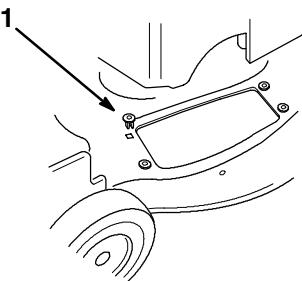

Figure 37
6. Install four grommets supplied with the grass catcher into the four square holes in the lawn mower (Fig. 37).